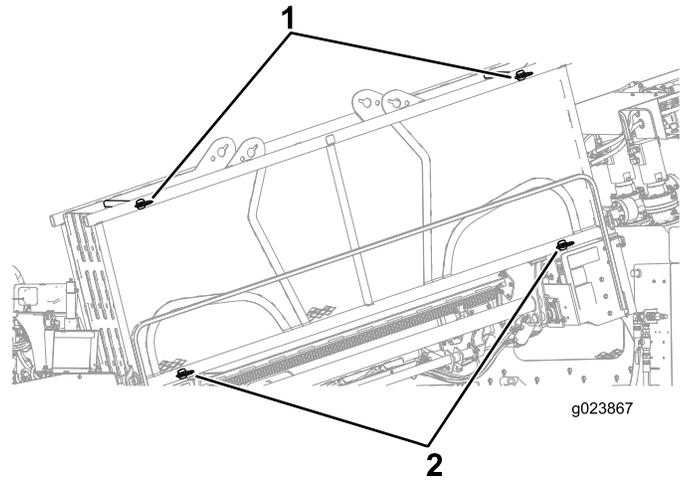

Figure 59
1. Ensure that the 2 upper pins and the 2 lower pins are installed to secure the pipe inside the pipe holder (Figure 59).